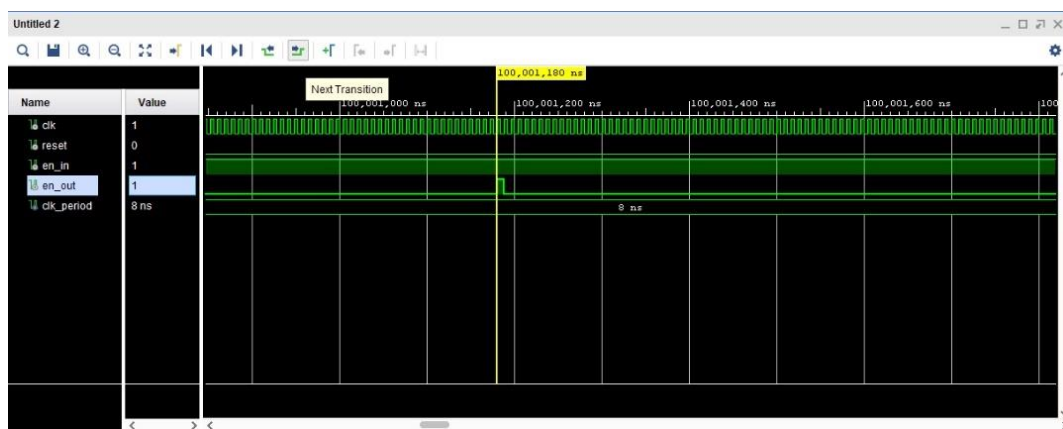

Figure 40
13. Since the **en_out** pulse is produced only each 100 ms, it is difficult to find it when looking at the simulation waveform. To find it easily, just select the signal's name **en_out** in the waveform names list and click on the **Next Transition** icon in the waveform window's horizontal toolbar (Figure 40), and the yellow marker jumps to the next **en_out** signal transition